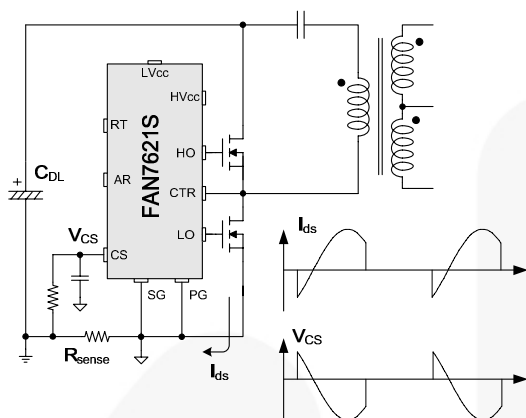
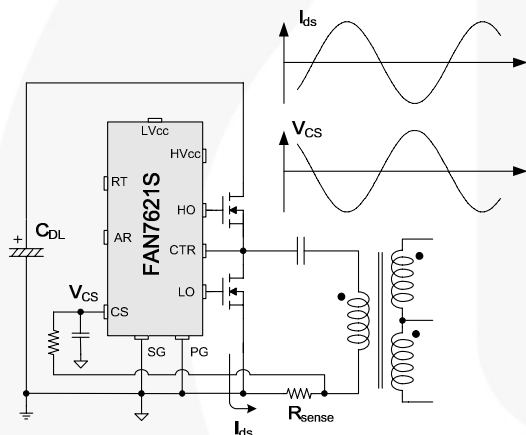

Figure 23. Half-Wave Sensing
Figure 24. Full-Wave Sensing
**6. Current Sensing Using Resistor:** FAN7621S senses drain current as a negative voltage, as shown in Figure 23 and Figure 24. Half-wave sensing allows low power dissipation in the sensing resistor, while full-wave sensing has less switching noise in the sensing signal.